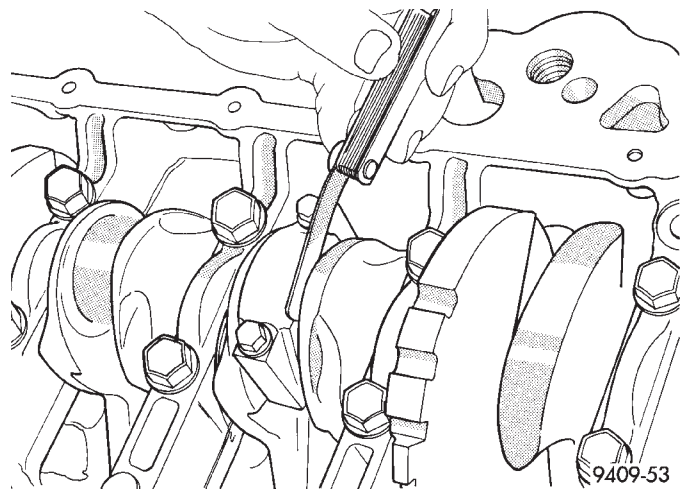

Fig. 8 Connecting Rod Side Clearance
(2) Before installing the **NEW** bolts the threads should be oiled with clean engine oil.
(3) Install each bolt finger tight then alternately torque each bolt to assemble the cap properly.
(4) Tighten the bolts to 27 N·m PLUS 1/4 turn (20 ft. lbs. PLUS 1/4 turn) **Do not use a torque wrench for last step.**
(5) Using a feeler gauge, check connecting rod side clearance (Fig. 8). Refer to Connecting Rod Specification Chart for specifications.